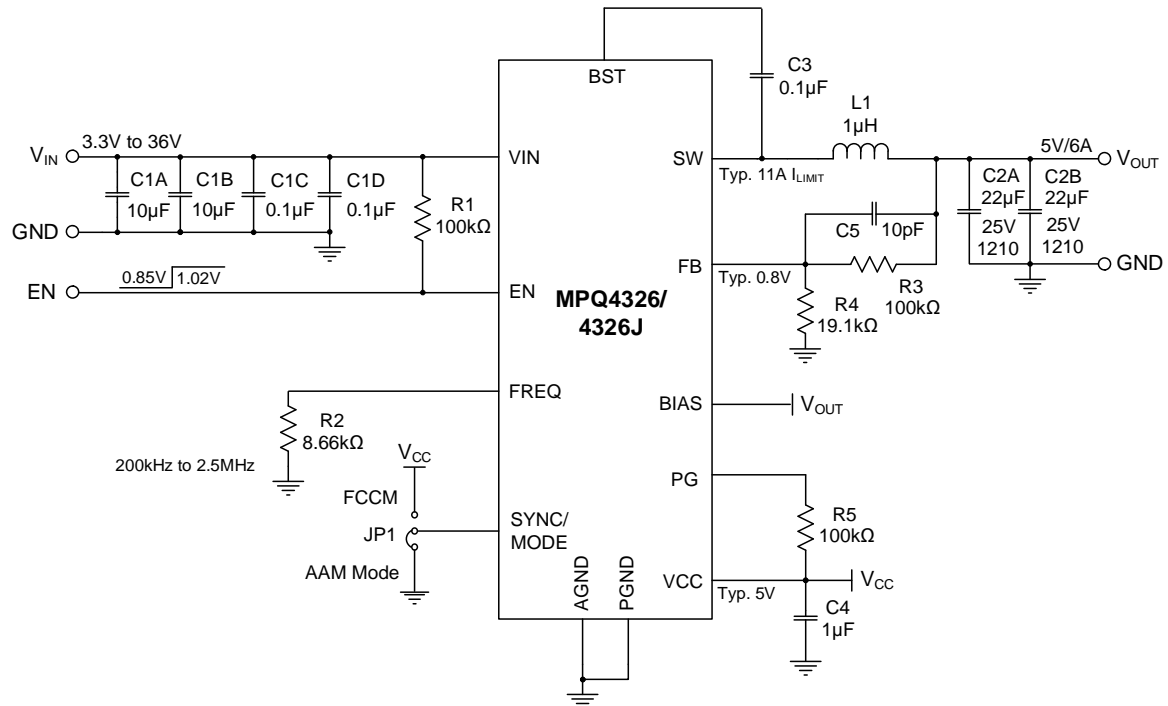

Figure 13: Typical Application Circuit ($V_{OUT} = 5V$, $f_{sw} = 2.2MHz$)
15) The recommended PCB layout is based on Figure 13 on page 45.